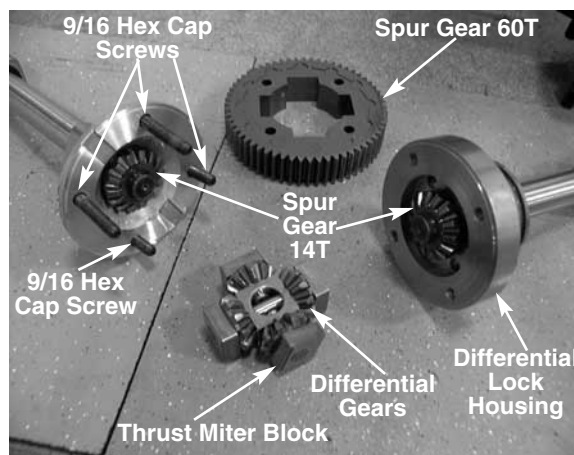

FIGURE 16.
35. Remove the four hex cap screws from the differential housing using a 9/16 socket. See figure 16.